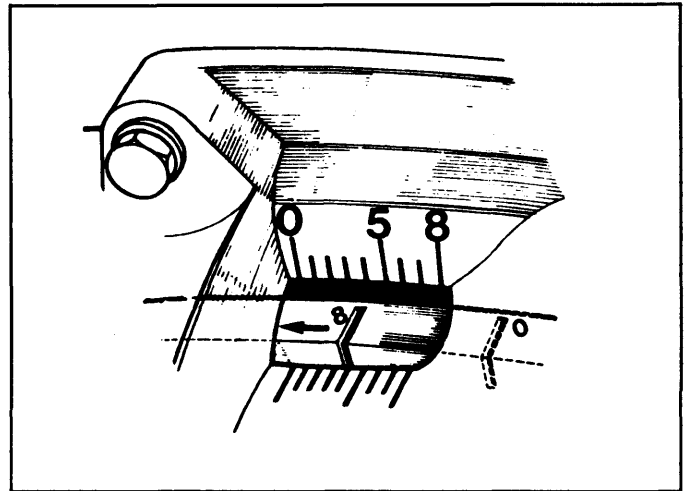

Fig. 5: Renault Ignition Timing Marks (Typical)
- 2) To adjust timing, turn distributor until specified mark on flywheel is aligned with specified mark on clutch housing. See Fig. 5. Reconnect distributor vacuum hose.